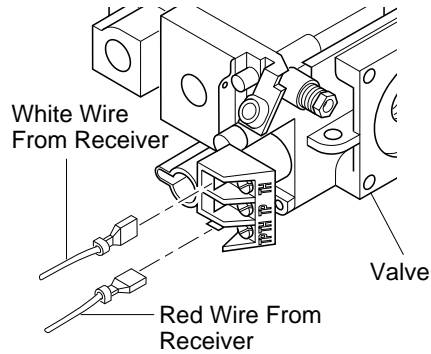

Figure 33 - Connecting Wires
6. Connect wires as shown in Figure 33.